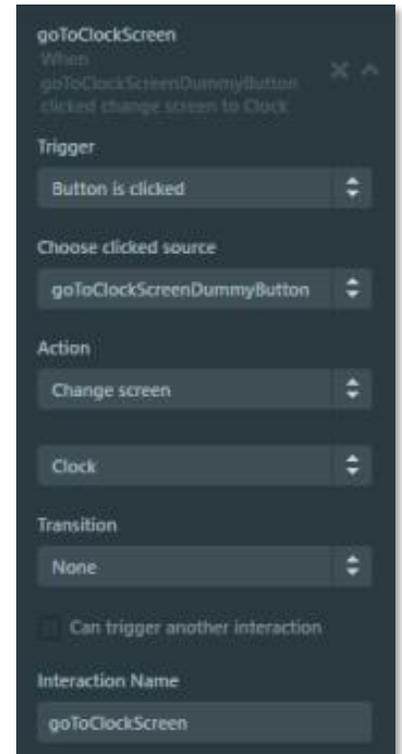

Figure 42
- For each dummy button created, an interaction was created to link the dummy button to a screen transition. For example, see `goToClockScreen` under the list of interactions for the `MainMenu` screen. As shown in Figure 42, `goToClockScreen` uses `goToClockScreenDummyButton` to set a transition to the `Clock` screen.
Note that the function names are derived from the screen name plus the type of screen transition defined for it: `goto<name of screen>Screen<screen transition type>`. For example, for the interaction shown in Figure 42, the function `gotoClockScreenNoTransition` was generated. These functions will be called inside the virtual function `handleEnterButton()` in the next step **Note:** The function names are *not* based on the name of the interaction they are derived from, despite the